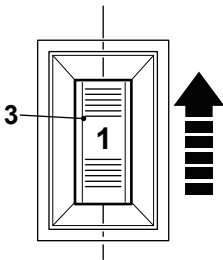

Fig. 8
- > Turn the speed dial (3) forward (as seen from the operators position) to increase the maximum rotational speed (Fig. 8). Use high rotational speed to perform high gloss polishing. Exercise caution when use the product at a high rotational speed, for too much heat may be generated which could do irreparable harm to the car paint.